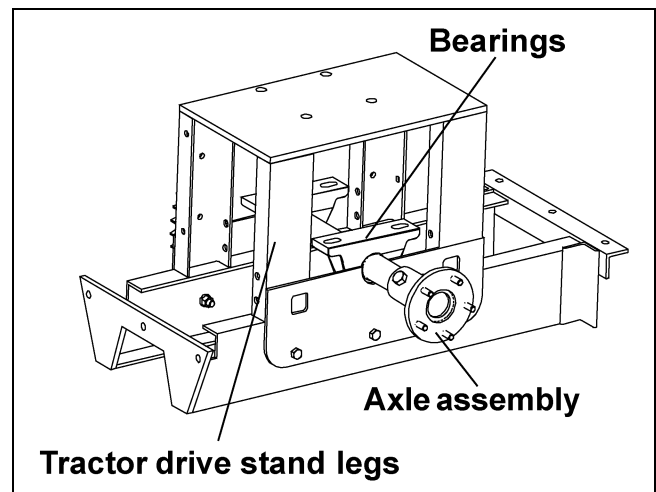

Figure 5R
- Slide the axle assembly between the legs of the tractor drive stand as shown in Figure 5R.
- Rotate the pillow block bearings until the bases are facing up. (See Figure 5R.)